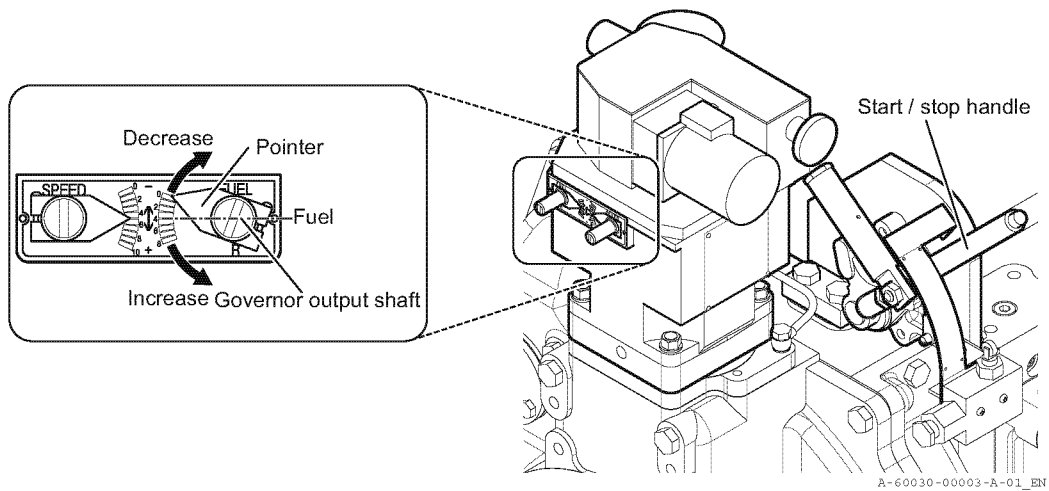

Fig.2 About the position of the speed control lever
5. Put a minus screwdriver into the end of the governor output shaft. Turn it fully in the direction of the fuel DECREASE side. Set the pointer to 0 (zero) on the scale. (Refer to Fig. 2.)